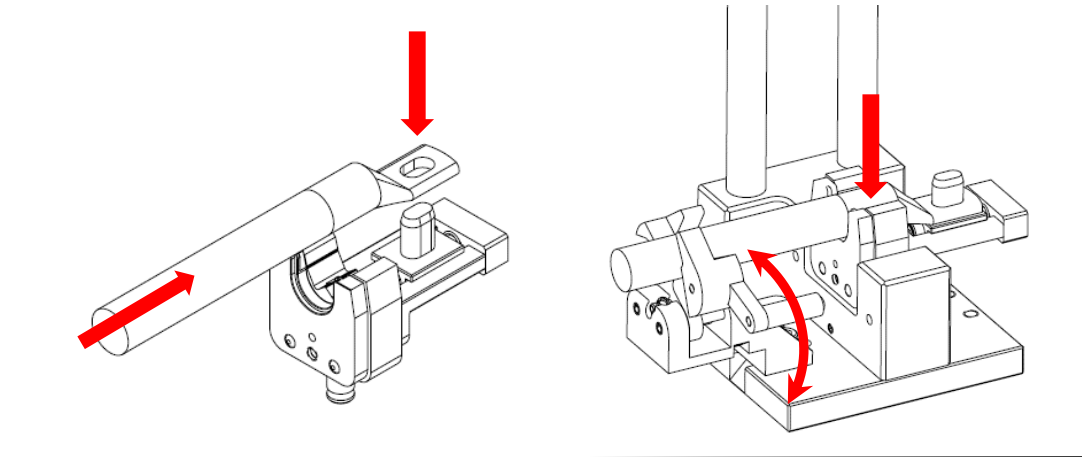

Figure 3
4. CRIMPING PROCEDURE [FIGURE 3]